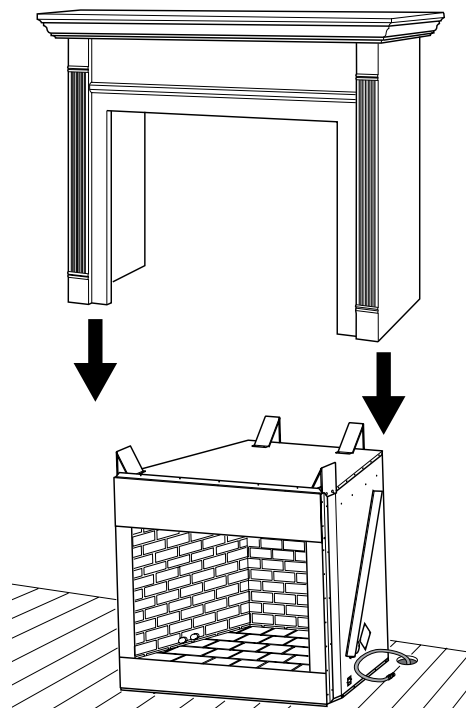

Figure 12 - Inserting Firebox Into Cabinet Mantel (Mantel May Vary From Illustration)
4. Carefully slide cabinet mantel over firebox. Be careful not to scratch firebox, cabinet mantel, flooring, etc., when installing (see **Figure 12**).